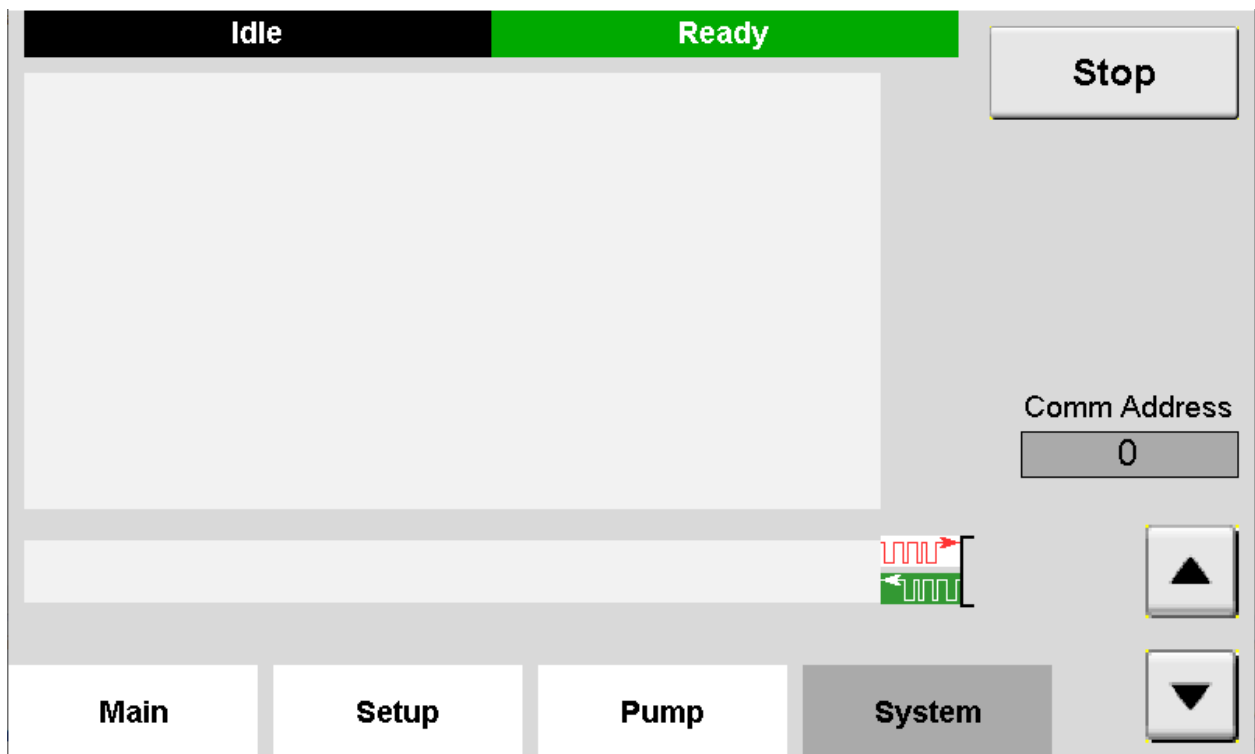

Figure 3.12 RS232 Interface Screen
3.2.5.11 RS232 Interface Screen (Figure 3.12)